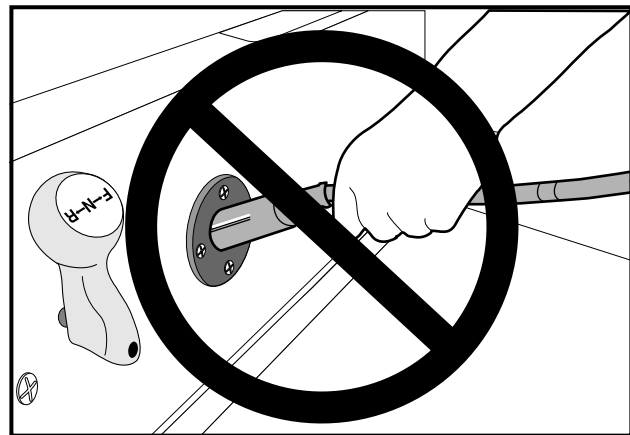

Figure 16 Incorrect Insertion of Charger DC Plug
- Do not pull on the DC cord (Figure 16, Page 30). Do not twist, rock or bend the plug. To disconnect the charger plug from the vehicle receptacle, grasp the plug by the handle and pull the plug straight out of the receptacle.